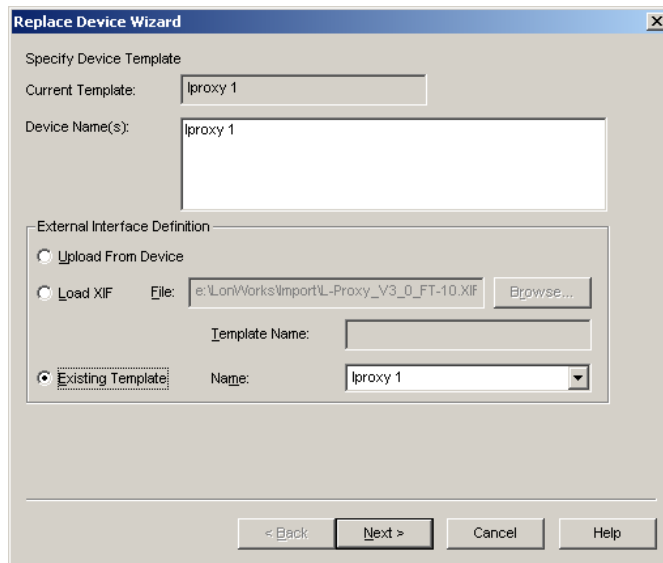

Figure 95: LonMaker replace device wizard.
- Select **Commissioning → Replace....** This opens the LonMaker **Replace Device Wizard** as shown in Figure 95.